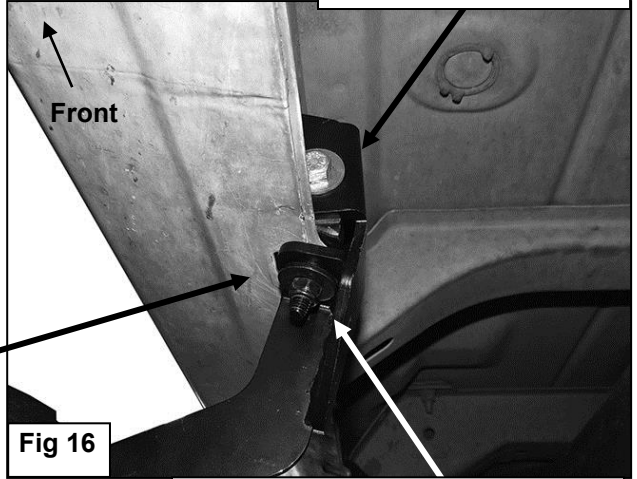

Fig 16
11. Line up the side tab on the Lower Bracket with the threaded hole in the side of the Upper Bracket. Attach the Lower Bracket to the Upper Bracket with (1) 8mm x 25mm Hex Bolt, (1) 8mm Lock Washer and (1) 8mm Flat Washer, (**Figure 16**). Leave loose at this time.